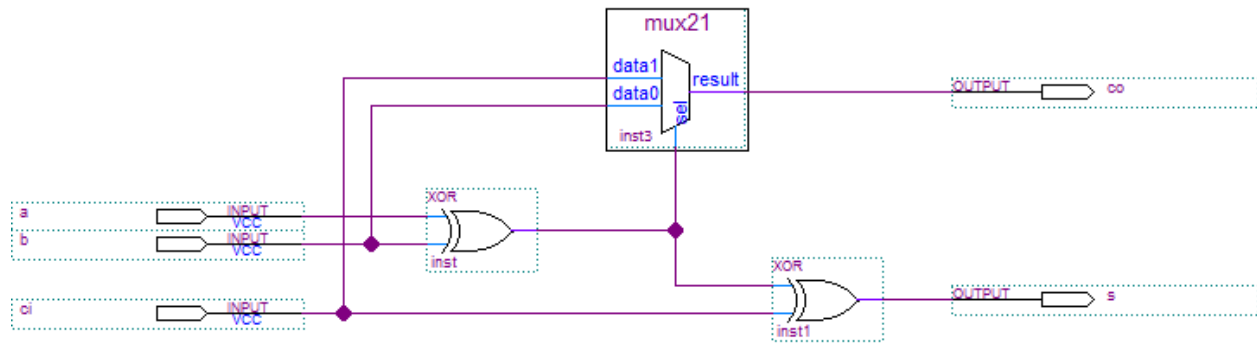

Figure 2a. Full adder circuit
In this part, you will use a Full Adder (FA) circuit to design a three-bit ripple carry adder circuit. Figure 2a shows one possible circuit for a Full Adder, which has the inputs a, b and ci, and produces the outputs s and co.
Note that this circuit has been built using the `lpm_mux` component from the Altera libraries. You could also use the 74157 component, if you prefer. In order to use the `lpm_mux` component, select Tools > IP Catalog and type `mux` in the search box. This should locate the component `lpm_mux`. Double-click on it and specify an IP variation file name in the dialog box. For example, the `lpm_mux` component in Figure 2a has the IP variation file name `mux21`. Next specify the number of data inputs (2) and the width on the data input and result output (1). There is no need to pipeline the multiplexer. On the last configuration page, check the box for `mux21.bsf` to generate a Quartus Prime symbol file so that you can use `mux21` as a symbol in your schematic, as shown in Figure 2a. Click Yes to add the Quartus IP file to your project. Now, you can use the `mux21` symbol in your schematic.
2. Draw a schematic for the complete circuit given in Figure 2a and 2b, observing the following points:
- Create a symbol for your Full Adder (FA) circuit.
- ❑ Based on the design in Figure 2a, draw a truth table for your full adder circuit. Use K-maps to generate minimized sum of products equations for c_o and s and compare them to the circuit in Figure 2a. Is there an advantage to Figure 2a compared to the SoP equations?